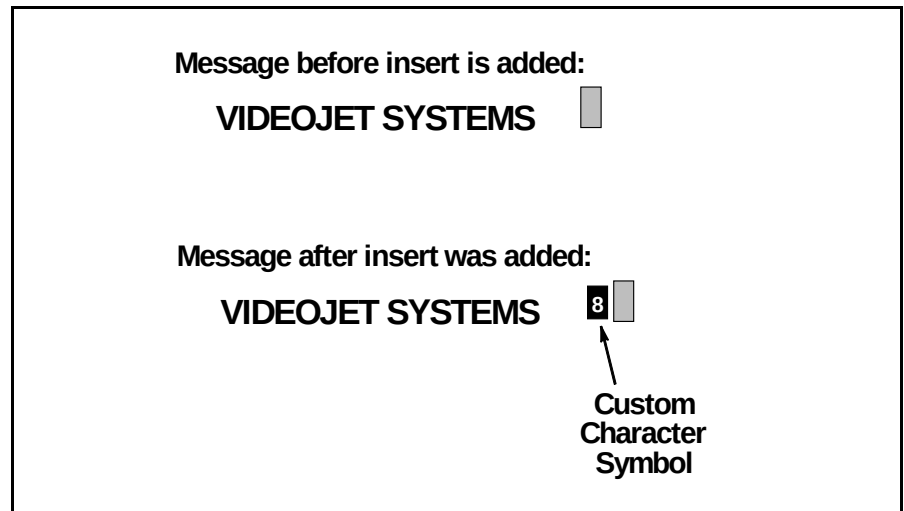

Figure 6-45. Message with a Custom Character Insert
5. Press the **ENTER** key. Frame <03 INSERT> reappears in the display screen, and the insert will appear in the message as a “custom character symbol.” Refer to Figure 6-45.
The “custom character symbol” that appears in the message differs, depending on the entry made in step 4. If the storage location entry for the custom character was 8, the “custom character symbol” will appear as the number eight inside a dark box in the message. Refer to Figure 6-45.